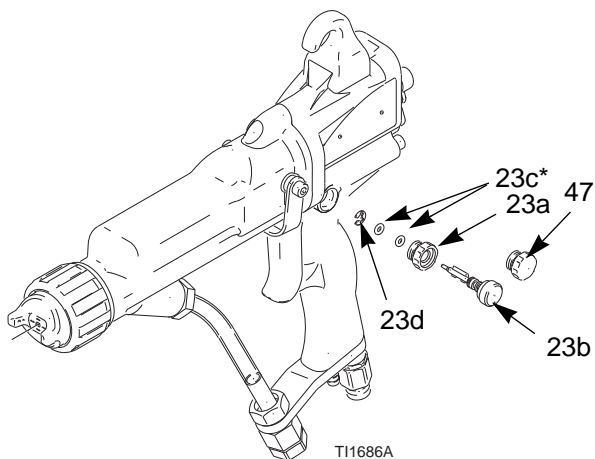

Fig. 35. Atomizing Air Restrictor Valve
2. Remove the atomizing air restrictor valve (23). Inspect the o-ring (23c*). Replace if necessary. See FIG. 35..
3. Install a new atomizing air restrictor valve (23), or disassemble and replace parts individually. The valve protrusion must be oriented to clear the air valve (21) shaft.